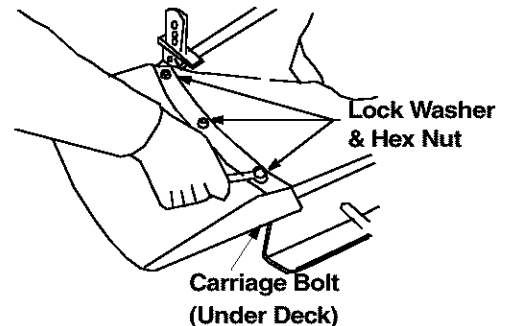
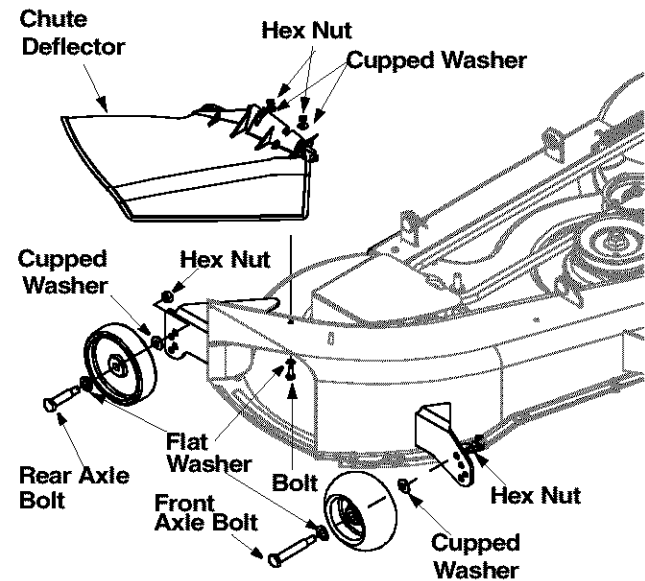

Figure 15
Figure 16
- **50" Deck only:** Remove the bolts, nuts and cupped washers which are attached to the deck next to the chute opening. Place the chute deflector in position as shown in Figure 15. (For 46" decks, please refer to Figure 16.) Secure with hardware removed earlier.
- Place flat washer on the axle bolt, then the deck wheel and cupped washer (crowned side of washer goes against the wheel). See Figure 16.